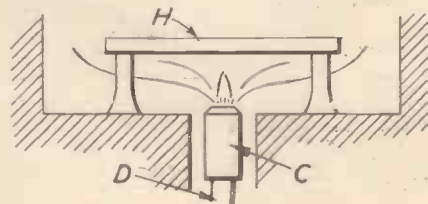

Fig. 2.—Suggested modification to reader's design.
**B**RAZING lamps would probably be far too severe for firing pottery as shown. The sheet steel (A) in Fig. 1, would last no time at all. Use firebrick (H) (Fig. 2), and put burners in one behind the other, instead of side by side. Seal door with asbestos rope.